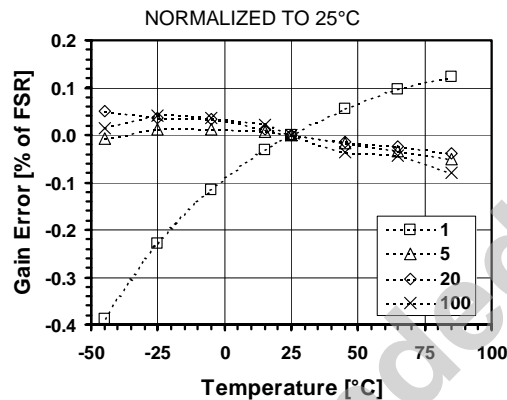

Figure 16-19. Gain error vs. temperature for different PGA gains
- (7) Resolution is given by  $n = 2 \cdot \log_2(OSR) + \log_2(N_{ELCONV})$ . OSR can be set between 8 and 1024, in powers of 2.  $N_{ELCONV}$  can be set to 1, 2, 4 or 8.
- (8) If a ramp signal is applied to the input, all digital codes appear in the resulting ADC output data.
- (9) Gain error is defined as the amount of deviation between the ideal (theoretical) transfer function and the measured transfer function (with the offset error removed). (See Figure 16-19)
- (10) Offset error is defined as the output code error for a zero volt input (ideally, output code = 0). For  $\pm 1$  LSB offset,  $N_{ELCONV}$  must be  $\geq 2$ .
- (11) INL defined as the deviation of the DC transfer curve of each individual code from the best-fit straight line. This specification holds over the full scale.
- (12) DNL is defined as the difference (in LSB) between the ideal (1 LSB) and measured code transitions for successive codes.
- (13) Figures for Gains = 1 to 100. PSRR is defined as the amount of change in the ADC output value as the power supply voltage changes.
- (14) Conversion time is given by:  $T_{CONV} = (N_{ELCONV} \cdot (OSR + 1) + 1) / f_S$ . OSR can be set between 8 and 1024, in powers of 2.  $N_{ELCONV}$  can be set to 1, 2, 4 or 8.
- (15) PGAs are reset after each writing operation to registers **RegAcCfg1-5**. The ADC must be started after a PGA or inputs common-mode stabilisation delay. This is done by writing bit **Start** several cycles after PGA settings modification or channel switching. Delay between PGA start or input channel switching and ADC start should be equivalent to OSR (between 8 and 1024) number of cycles. This delay does not apply to conversions made without the PGAs.
- (16) Nominal (maximum) bias currents in PGAs and ADC, i.e. **IB\_AMP\_PGA[1:0] = '11'** and **IB\_AMP\_ADC[1:0] = '11'**.
- (17) Bias currents in PGAs and ADC set to 3/4 of nominal values, i.e. **IB\_AMP\_PGA[1:0] = '10'**, **IB\_AMP\_ADC[1:0] = '10'**.
- (18) Bias currents in PGAs and ADC set to 1/2 of nominal values, i.e. **IB\_AMP\_PGA[1:0] = '01'**, **IB\_AMP\_ADC[1:0] = '01'**.
- (19) Bias currents in PGAs and ADC set to 1/4 of nominal values, i.e. **IB\_AMP\_PGA[1:0] = '00'**, **IB\_AMP\_ADC[1:0] = '00'**.
Figure 16-19 shows gain error drift vs. temperature for different PGA gains. The curves are expressed in % of Full-Scale Range (FSR) normalized to 25°C.